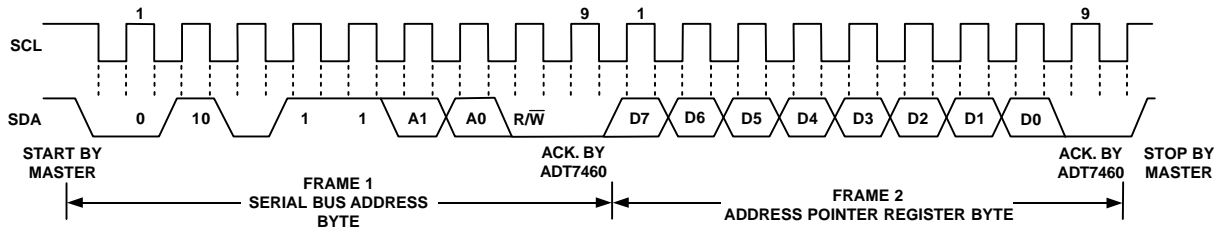
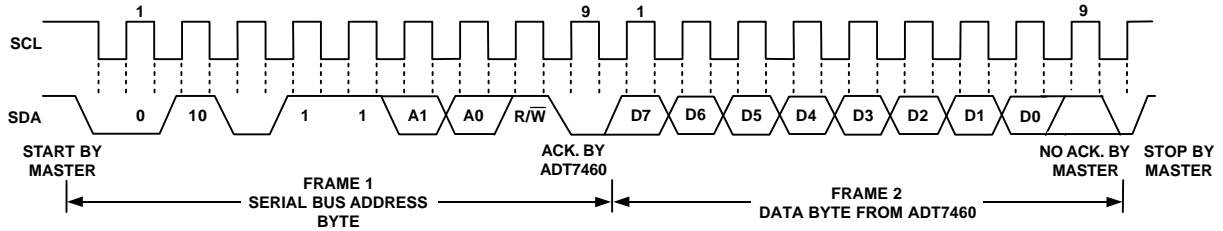

Figure 18. Writing to the Address Pointer Register Only
Figure 19. Reading Data from a Previously Selected Register
- ◆ If the ADT7460's address pointer register value is unknown or not the desired value, it is first necessary to set it to the correct value before data can be read from the desired data register. This is done by performing a write to the ADT7460 as before, but only the data byte containing the register address is sent because data is not to be written to the register. This is shown in Figure 18. A read operation is then performed, consisting of the serial bus address, R/W bit set to 1, followed by the data byte read from the data register. This is shown in Figure 19.
- ◆ If the address pointer register is known to be already at the desired address, data can be read from the corresponding data register without first writing to the address pointer register, so Figure 18 can be omitted.
In Figure 17 and Figure 19, the serial bus address is shown as the default value 01011(A1) (A0), where A1 and A0 are set by the address select mode function previously defined.